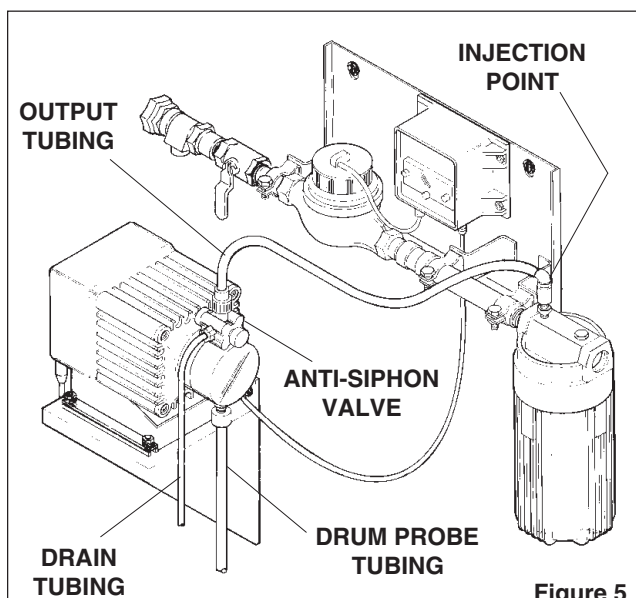

Figure 5
5. Using the drum probe, 1/2" (12.7mm) tubing and fittings provided, plumb the drum probe to the bottom connector on the pump head, *refer to Figure 5.*